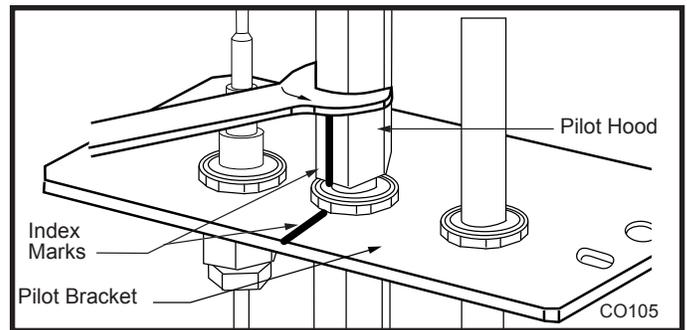

Fig. 76 Remove pilot hood. (Your pilot may have a different appearance.)
- Loosen pilot hood turning counterclockwise using a 7/16" wrench. (Fig. 76) **NOTE:** You may use penetrating oil to prevent pilot hood threads from seizing up.